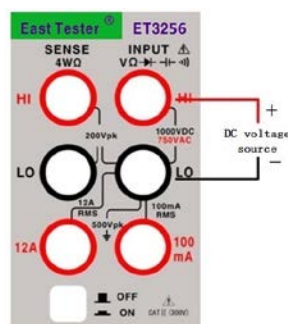

Figure 4-2 Wiring method
2. Connect the red and black test leads to the corresponding input terminals as shown in Figure 4-2.